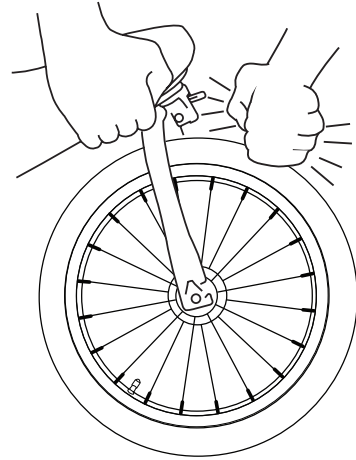

Fig. 5
5. Lift the front wheel off of the ground and sharply strike the top of the tire. (Fig. 5) The wheel should not be loose or come off.